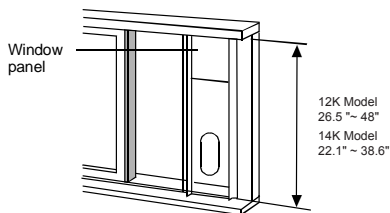

Fig. 15
2. Attach the window slider kit to the window stool. Adjust the length of the window slider kit according to the width of window, shorten the adjustable window kit if the width of window is less than 27 inches. Open the window sash and place the window slider kit on the window stool. See Fig.15.